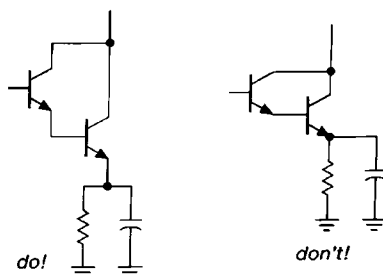

Figure B.2. Bring leads away from component symbols before connecting or jogging.
- It is helpful to bring leads¹ away from components a short distance before making connections or jogs. For example, draw transistors as in Figure B.2.